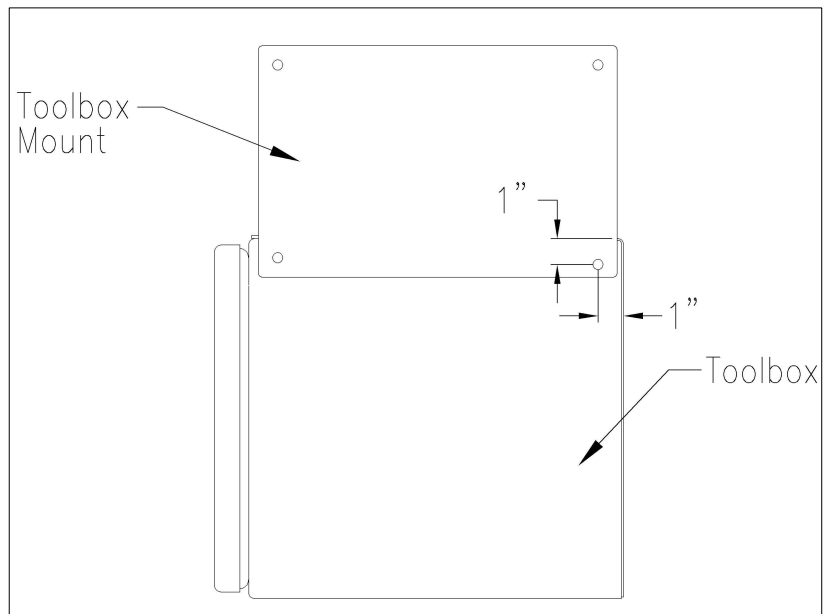

Figure 2
1. Drill 25/64" hole 1" from top of toolbox and 1" from back edge of toolbox as shown in figure 2. Use the 9"x14" toolbox mount as a template to drill second hole in the toolbox. Fasten the mount to the toolbox using the hardware provided.